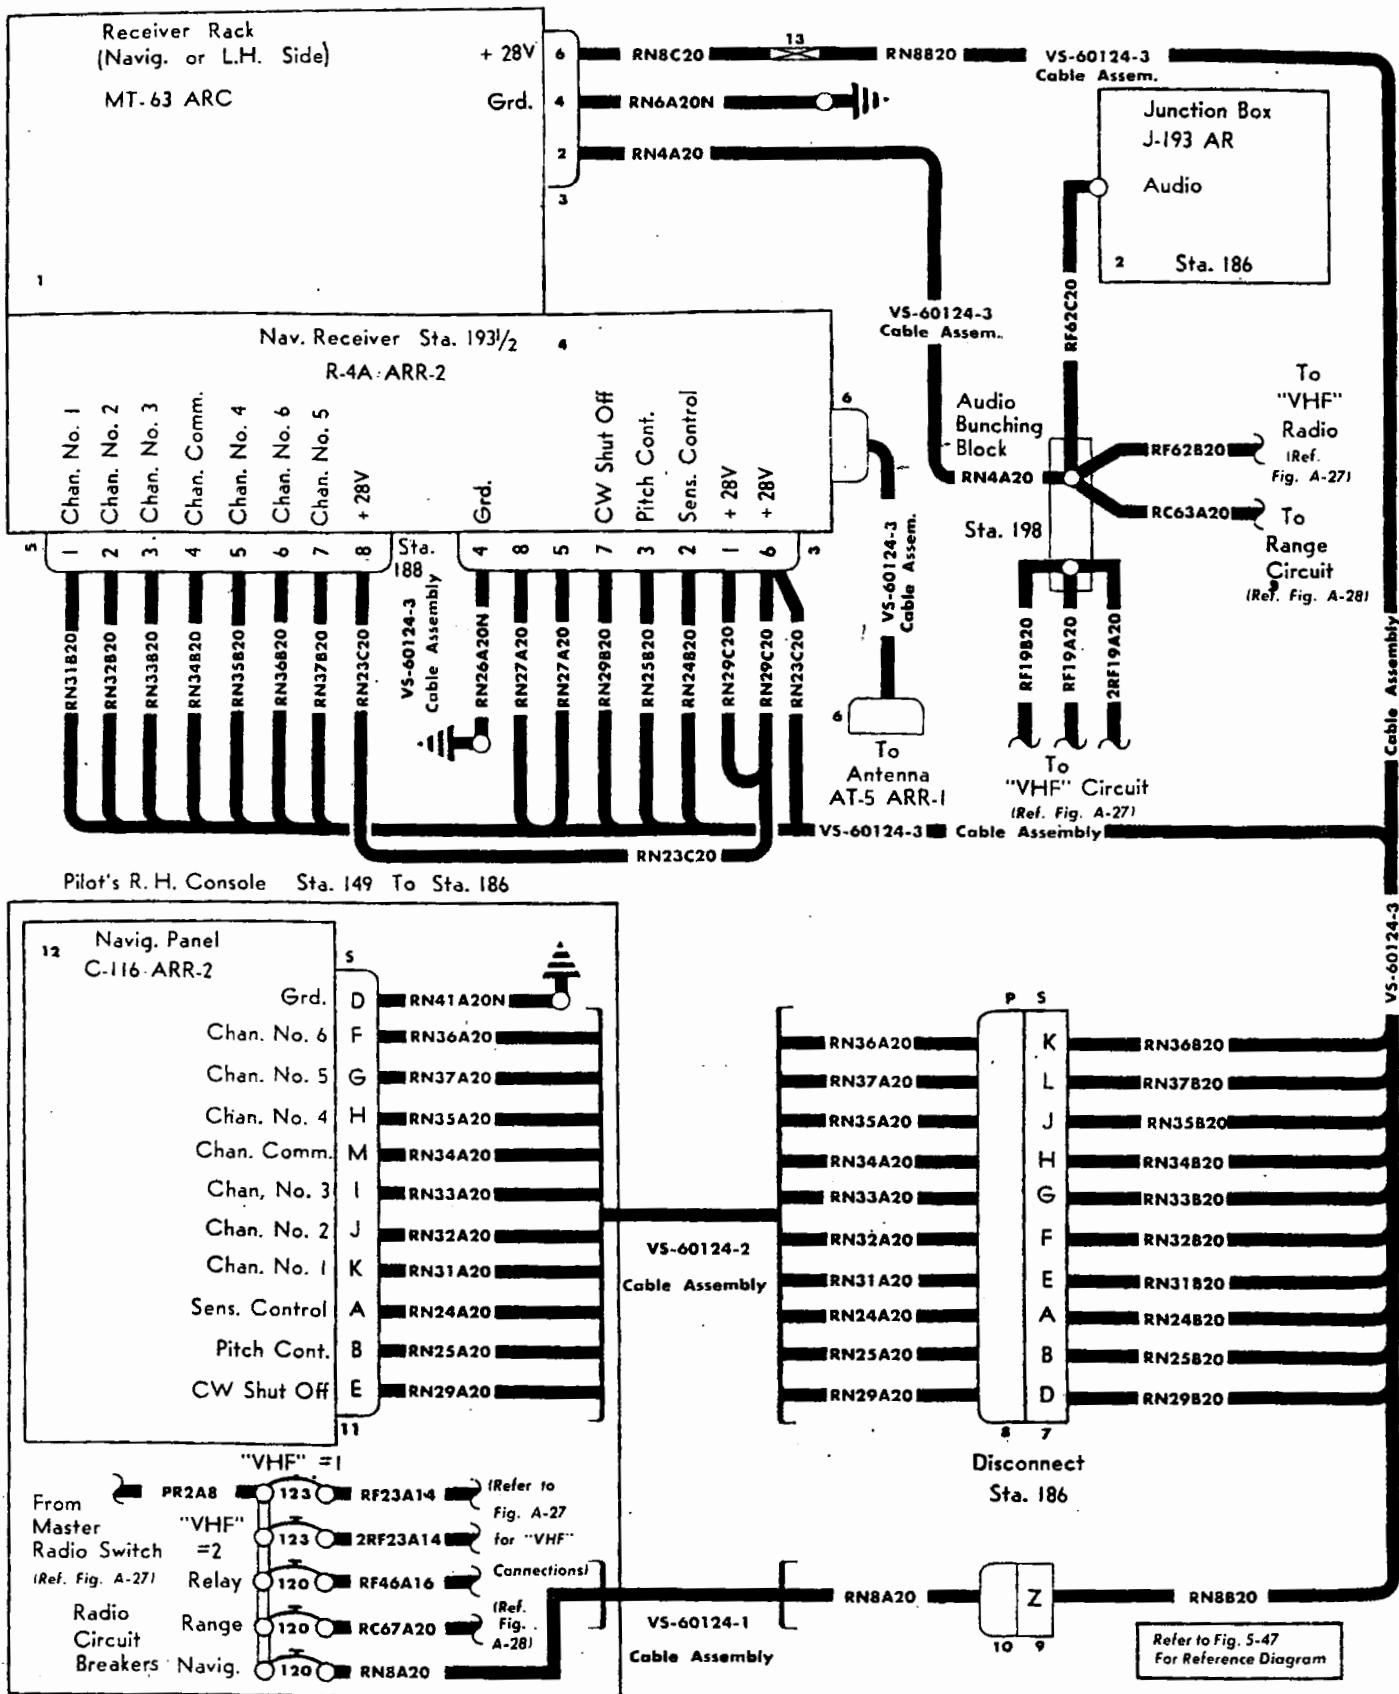

Figure A-29. R-4A ARR-2A Receiver Cabling Diagram.
**AN/ARR-2A WIRE TABLE (See figures A-29 and 5-47)